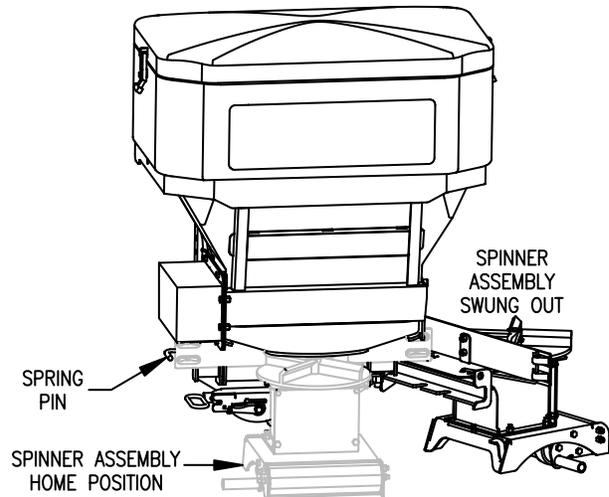

Figure 15. Swing Away Procedure G10605
3. Swing the Spinner Assembly out from under the spreader in a counter clockwise direction, refer to Figure 15.
5. To resume normal operation return the Spinner Assembly to the home position, refer to Figure 15.